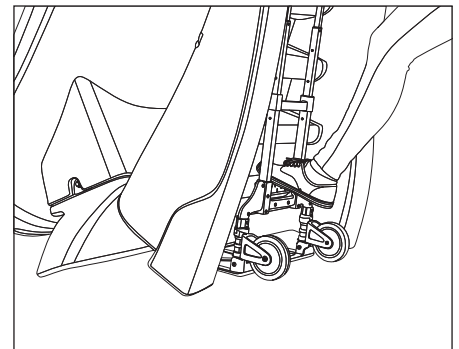

Figure 4
2. Once trolley is in place, use your foot to ensure that the trolley is firmly positioned in place (see **Figure 4**).